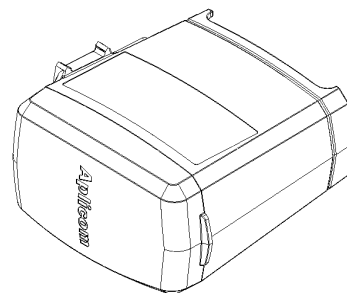

Figure 4.
4. Installation on its broadside, consider the following instructions. Figure 4.